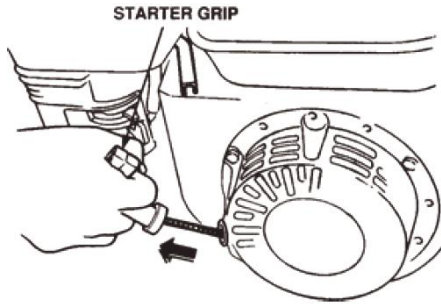

FIG.10
9.6 Grasp the starter grip (FIG. 10) and slowly pull it out. The resistance becomes the hardest at a certain position, corresponding to the